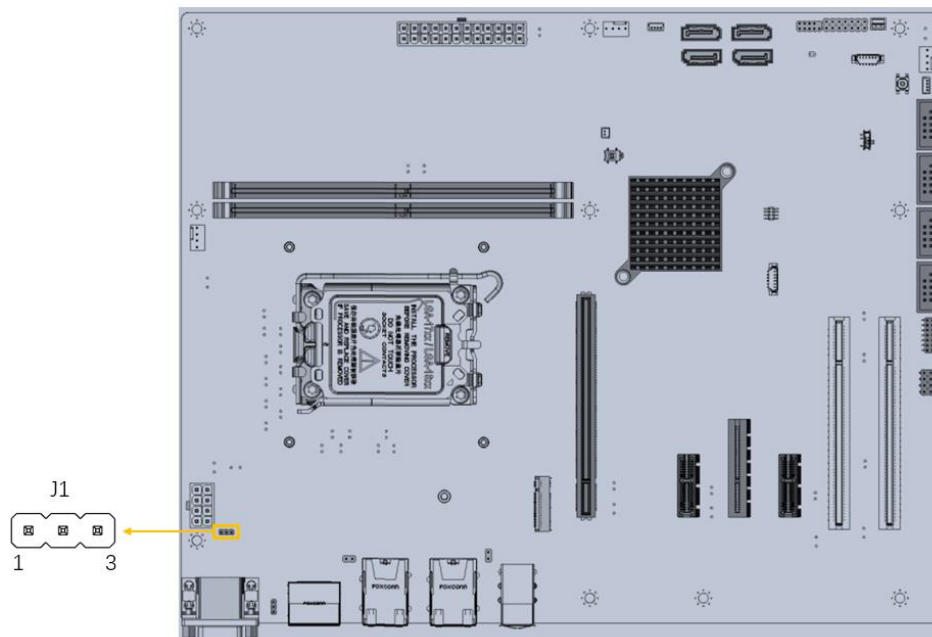

Figure 3-20: RAA229134 FW Flash Connector Locations
- CN Location:** See Figure 3-20